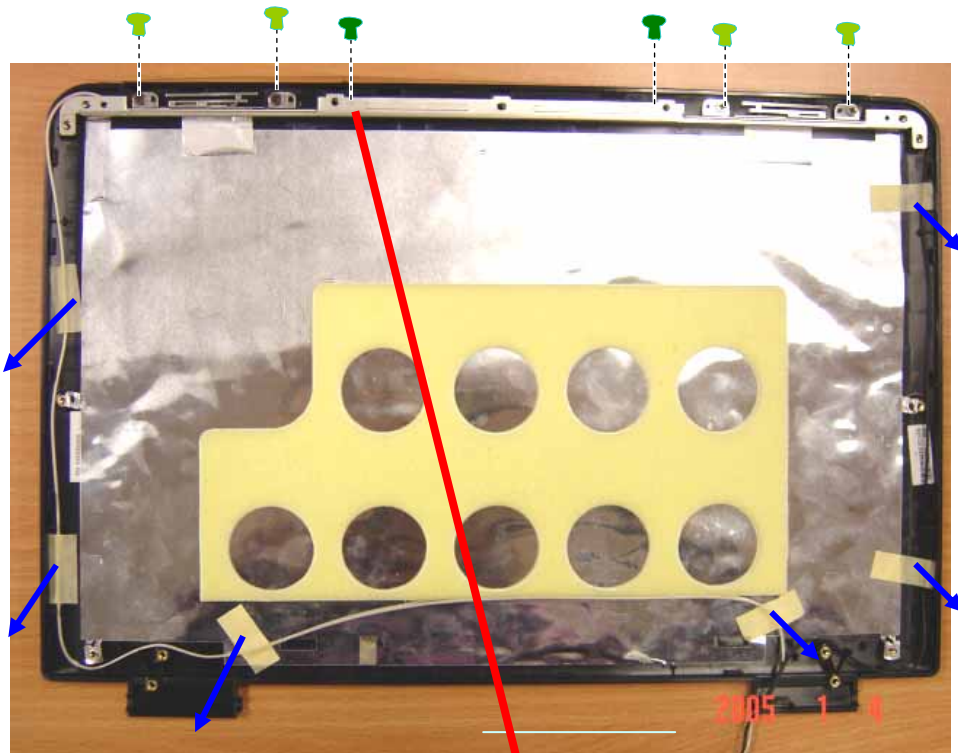

Figure 2-36
2. Release 6 * (item 30) as the arrow on support to remove “LCD support” . (Figure 2-36)